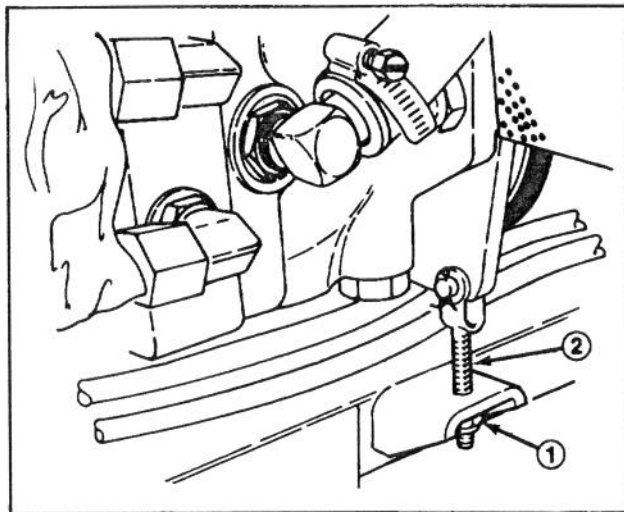

Figure 41
- A. Tighten nut on adjustment rod (Fig. 41) until desired belt tension is attained.